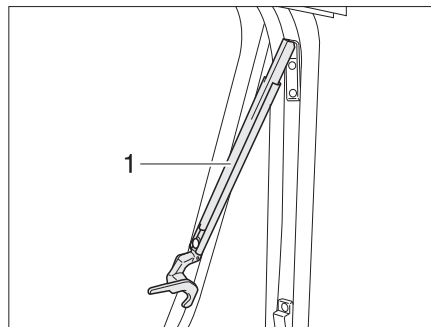

Fig. 12 Hinged window with automatic hinges, open
- Open the hinged window to the desired latched position. The automatic hinge (Fig. 12,1) locks in place automatically.